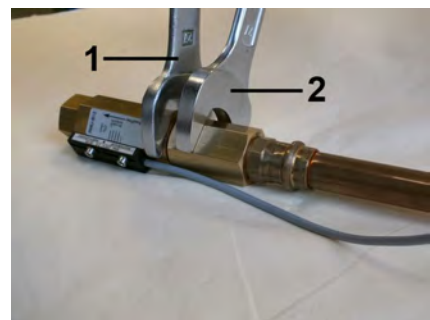

Fig. 13: Screw in the device (inlet)
2.  Fasten the adapter union of the pipe line with an appropriate spanner (Fig. 13/2). When doing so, lock the process connection of the device in place to prevent slip, using a suitable spanner (Fig. 13/1).
4. ➤ Fasten the adapter union of the pipe line with an appropriate spanner (Fig. 13/1). When doing so, lock the process connection (outlet) of the device in place to prevent slip, using a suitable spanner (Fig. 13/2).